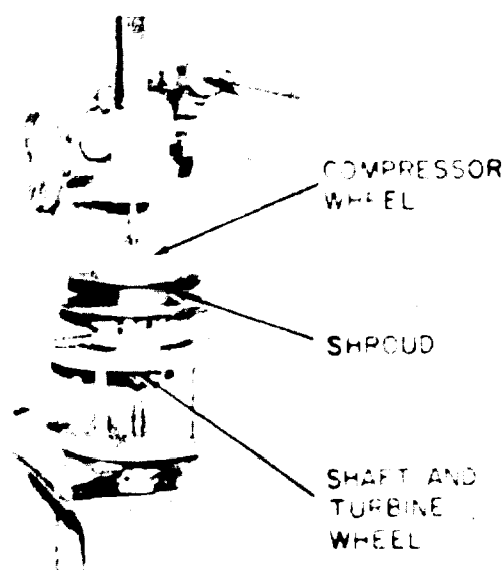

Figure 8-17. Pressing shaft and turbine wheel from compressor wheel
e. Bolt fixture adapter to fixture, figure 8-17. Attach bearing housing to fixture with shaft and wheel assembly (60) down.